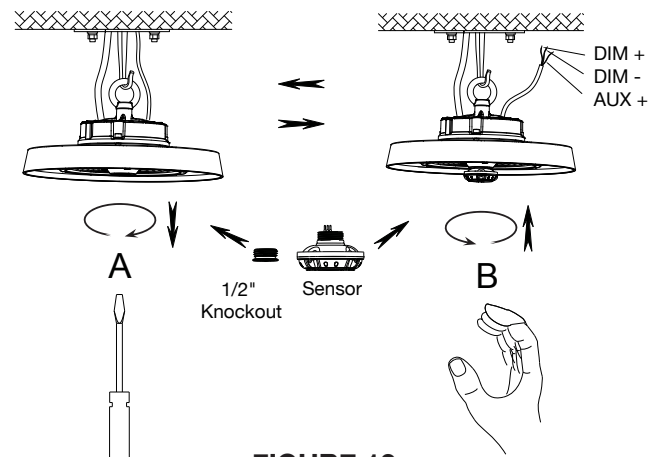

FIGURE 12
3. Default programs have been set for motion sensor and PIR before shipment, it needs to be re-set by a remote control if you need to change the working mode and the remote control is an optional accessory. (Figure 12)